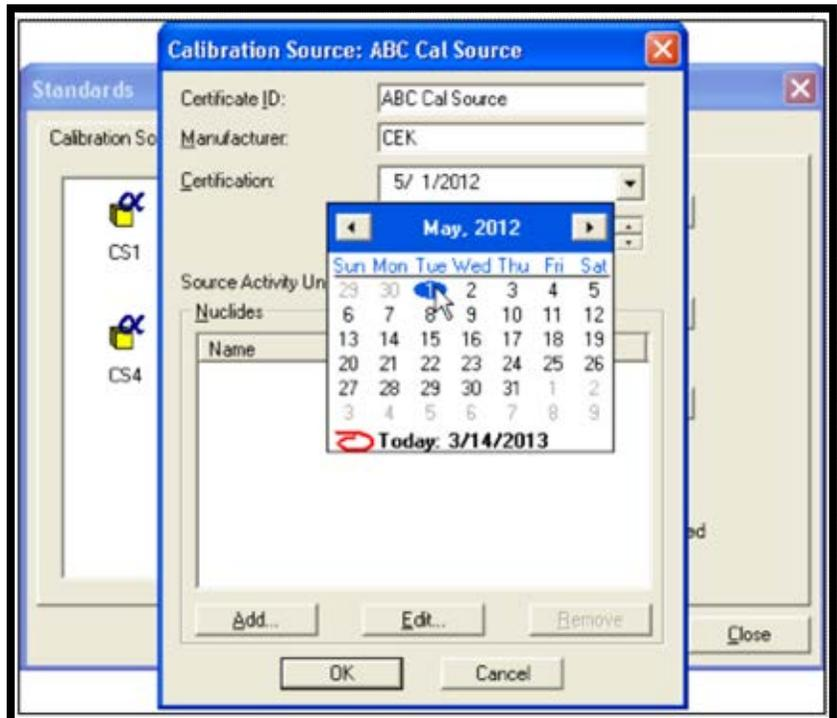

Figure 68. Add Certificate Date/Time
- 4) Enter the name of the calibration source (**Certificate ID**), **Manufacturer** (whether in-house or company), and **Certificate Date/Time** (Figure 68). The certification date is used to decay correct the activity of each of the nuclides contained on the standard source.